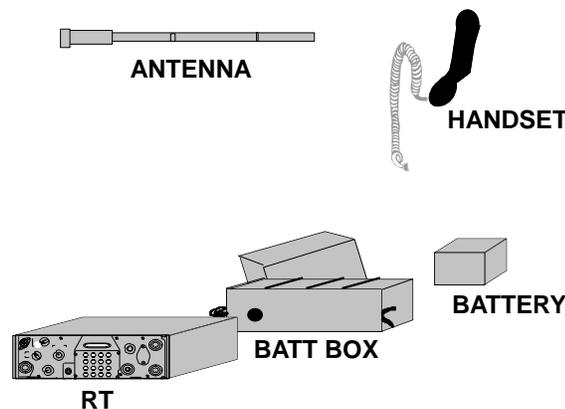

Figure 1. Manpack Components
3. **MANPACK CONFIGURATION (AN/PRC-119A)** - The Manpack configuration is made up of the following components (see figure 1):